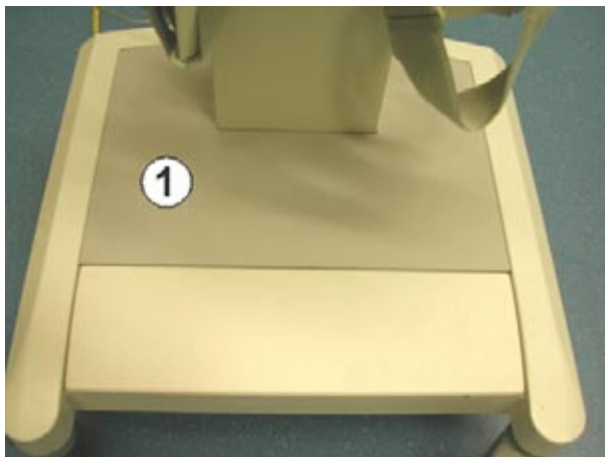

Fig. 12 Cover mat
- 16 Place the cover mat (Fig. 12/1) onto the battery cover.